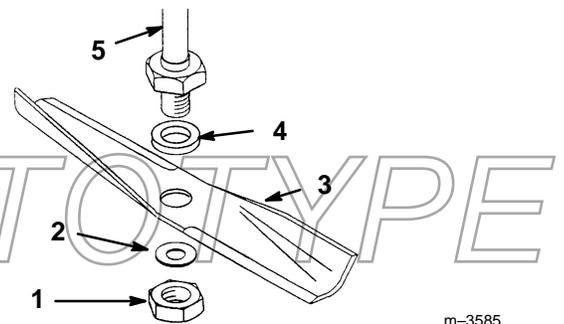

Figure 30
3. Hold the blade end using a rag or thickly padded glove. Remove the bolt, flat washer, and blade (Fig. 30). A block of wood may be wedged between the blade and the mower to lock the blade when you are removing the bolt.